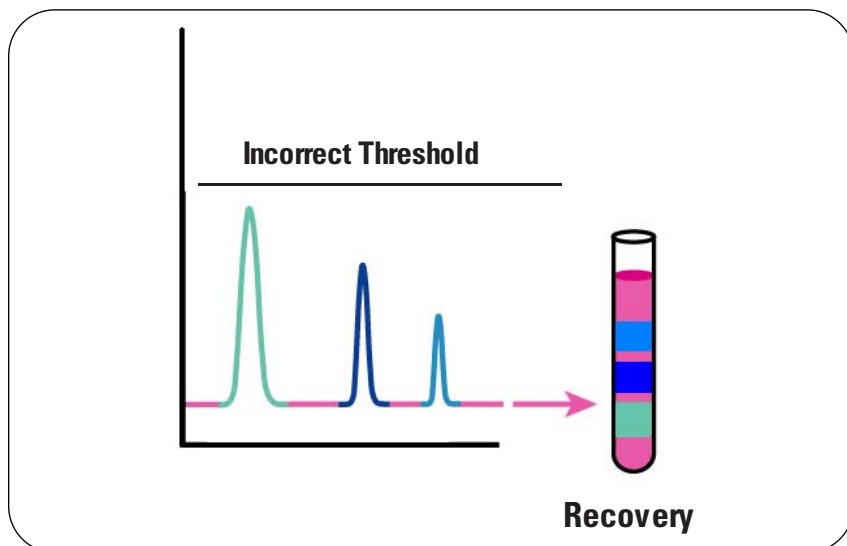

Figure 1
- Peaks fail to cross trigger threshold of generic methods (figure 1).